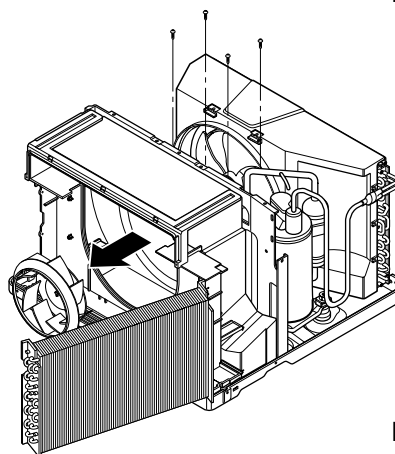

Figure 20
10. Pull out the hook of orifice by pushing the tabs and remove it. (See Figure 20)